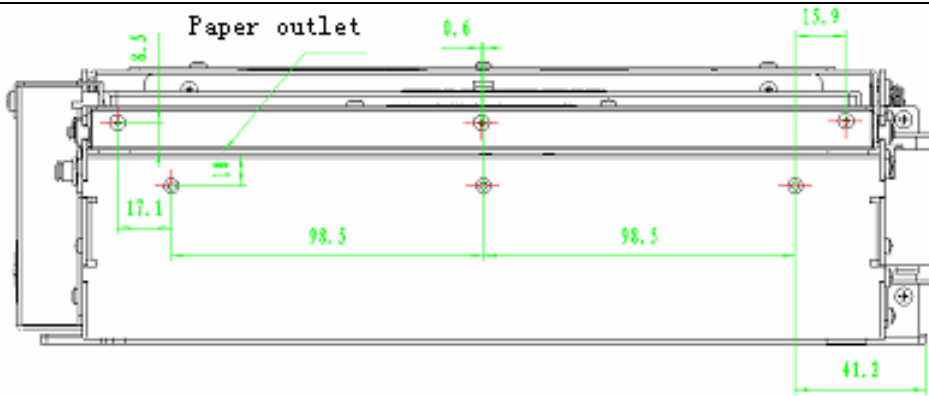

Figure 4.25 Fixing holes
- ◆ We leave fixing holes in printer mechanism for connecting paper out path for you as figure 4.25 (Notice the position of four fixing screw):